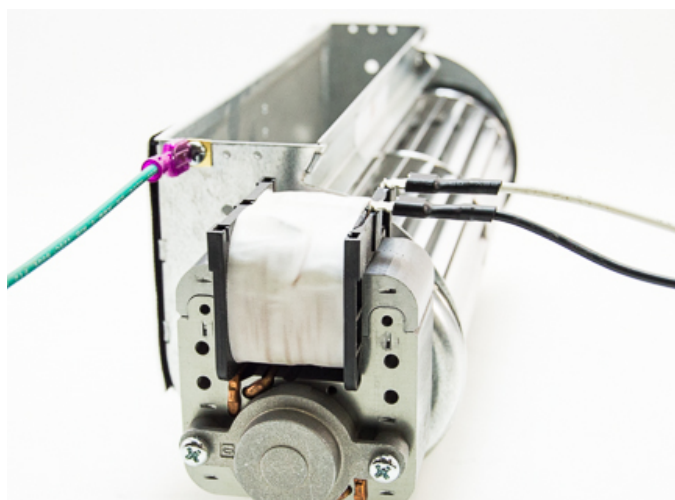

Figure: 1 • Does not matter which metal tab you connect the black and white wires to.
Step 2: Push the Green Ground Wire disconnect onto the ground tab on the end of fan. (Figure: 1)
Connect White (Fan Neutral) and Black (Fan Hot) wires to either of the spade terminals attached to the motor. Push disconnects onto metal tabs. (Figure: 1)